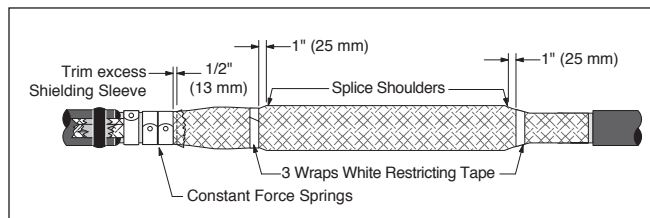

Figure 19
- 7.3 Fold end of shielding sleeve back over the single wrap of springs, then continue installing springs over the folded-back sleeve. Trim sleeve end 1/2" (13 mm) from spring (Figure 19).
- 7.4 Stretch shielding sleeve to conform snugly against splice and secure adjacent to splice shoulder with three wraps of white restricting tape (Figure 19).